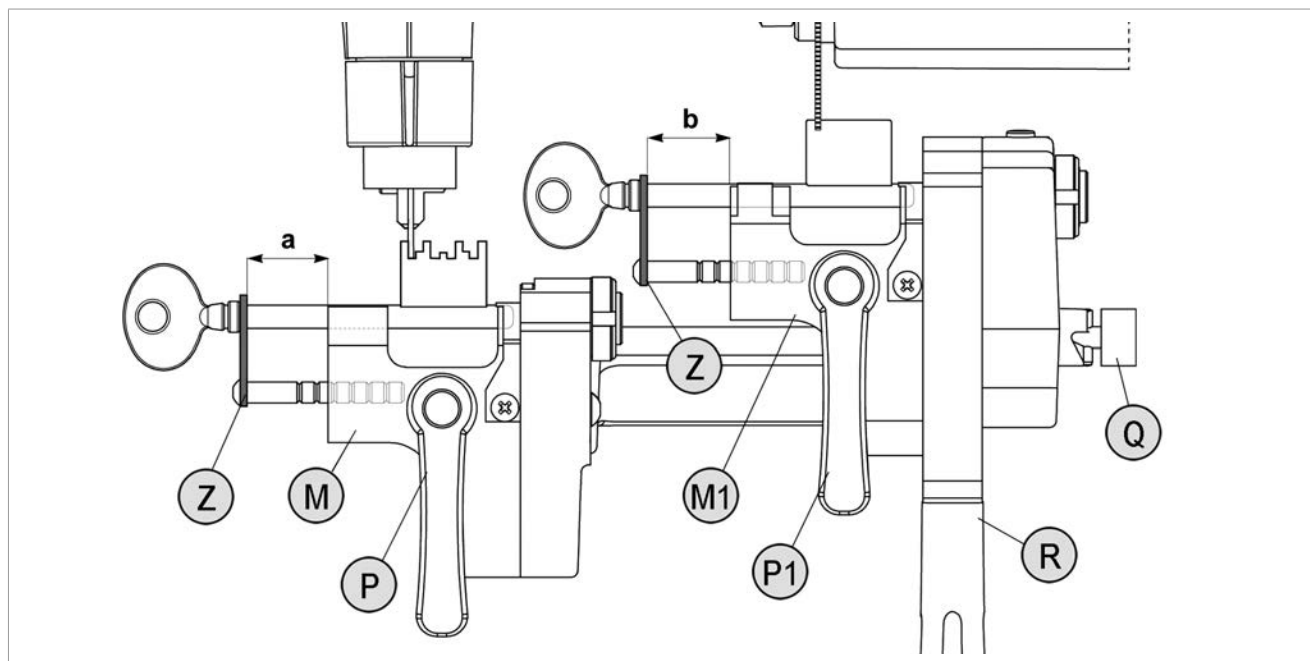

Fig.53
- visual, to position the keys on the same notch. The 2 pins-gauges (Z) must show the same number of clicks/grooves.
- 1) Use the lever (Q) to lock the right-hand clamp in the horizontal position.
- 2) Fit the keys into the clamps, moving them to the right until the rear stop goes up against the (Z) (Fig.53). The spacing on the gauge set (Z) must be the same for both clamps ($a = b$).